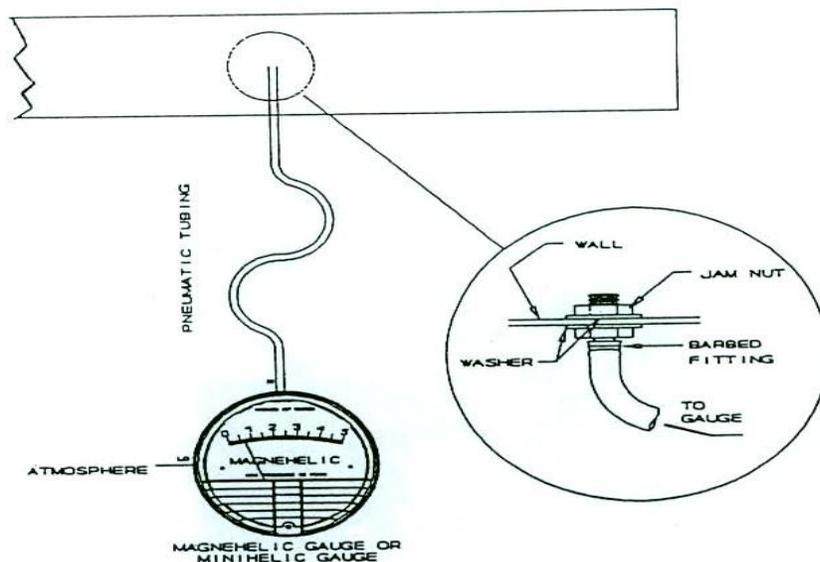

Figure 4
8. If a static pressure kit was provided, install as illustrated in figure 4.